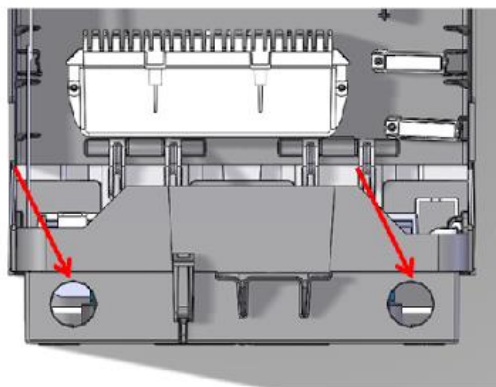

Fig. 38
- 3.10.2. Remove one of the plastic knock-out shown in Fig. 38 (use a screwdriver). Smooth the edges of the opening with sandpaper